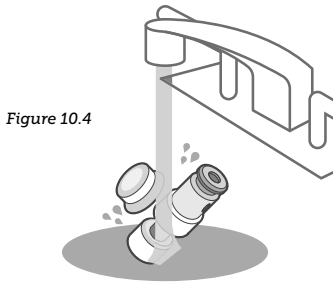

Figure 10.4
- c. Rinse both parts with clean water, and secure the float valve back onto the lid using the float valve silicone cap. [Figure 10.4]